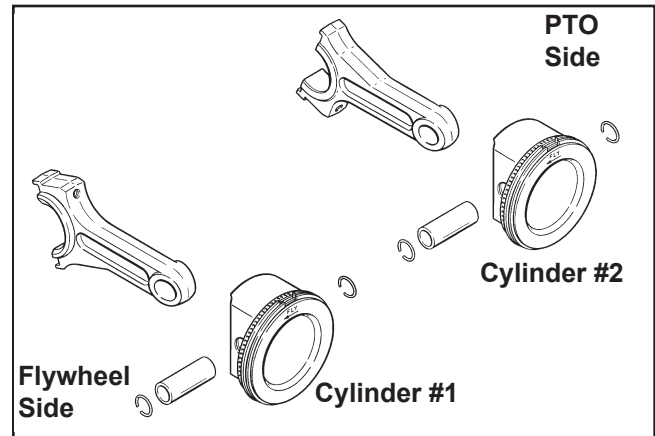

**Figure 10-7. Installing Crankshaft in Crankcase.**
2. Carefully slide the flywheel end of the crankshaft through the main bearing in the crankcase. See Figure 10-7.